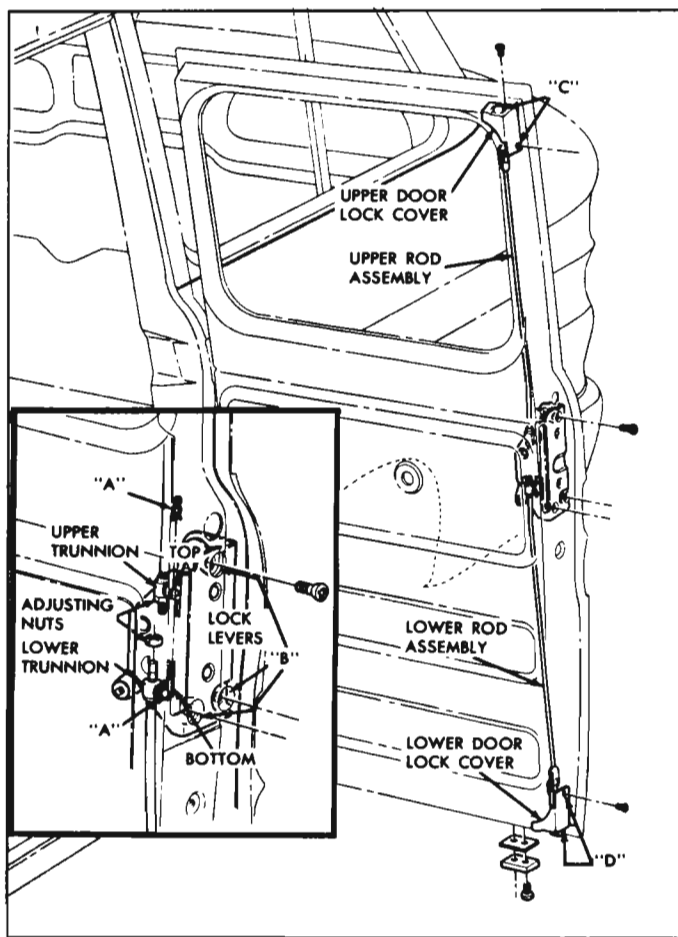

Fig. 10-73a—Side Intermediate Door Lock and Rod Assembly
6. Remove trunnion to lock retainer springs ("A", fig. 10-73a). Remove trunnion from each lock lever.
7. Remove three lock assembly to door retaining screws ("B", fig. 10-73a) and remove lock assembly.
NOTE: Adjust rods so that all slack is removed. Position trunnion to lock assembly lever (fig. 10-73a) in locked position—(top lever up and bottom lever down).
1. Install lock assembly retaining screws ("B", fig. 10-73a).
Removal and Installation (Refer to Figure 10-73a)
1. Remove retaining screws ("C" and "D", fig. 10-73a) at each door lock cover.